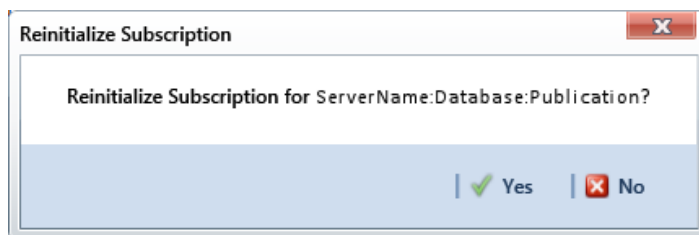

Figure 16-13. Reinitialize Subscription
- 4 Click  **Yes** when the message *Reinitialize Subscription* displays (Figure 16-13).